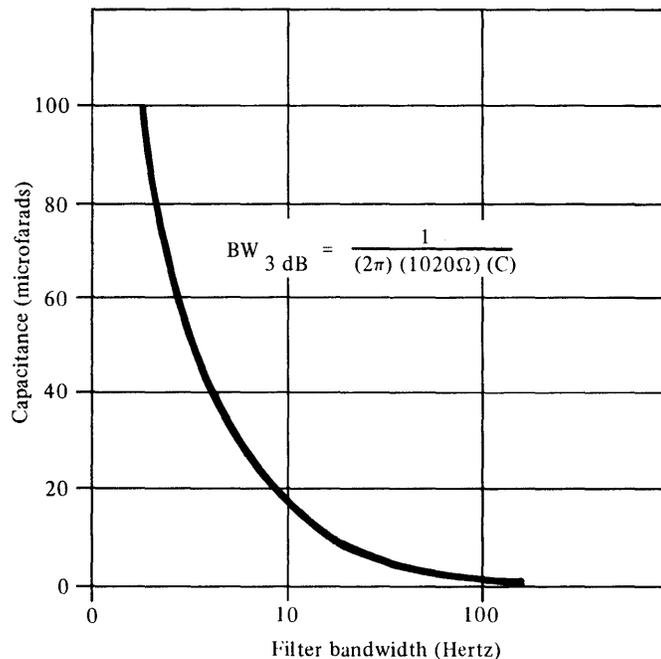

Figure B-1. Capacitance vs. bandwidth
For intermediate values not shown in the previous table, the bandwidth (BW) and capacitance (C) may be read from the log-linear graph in Figure B-1.